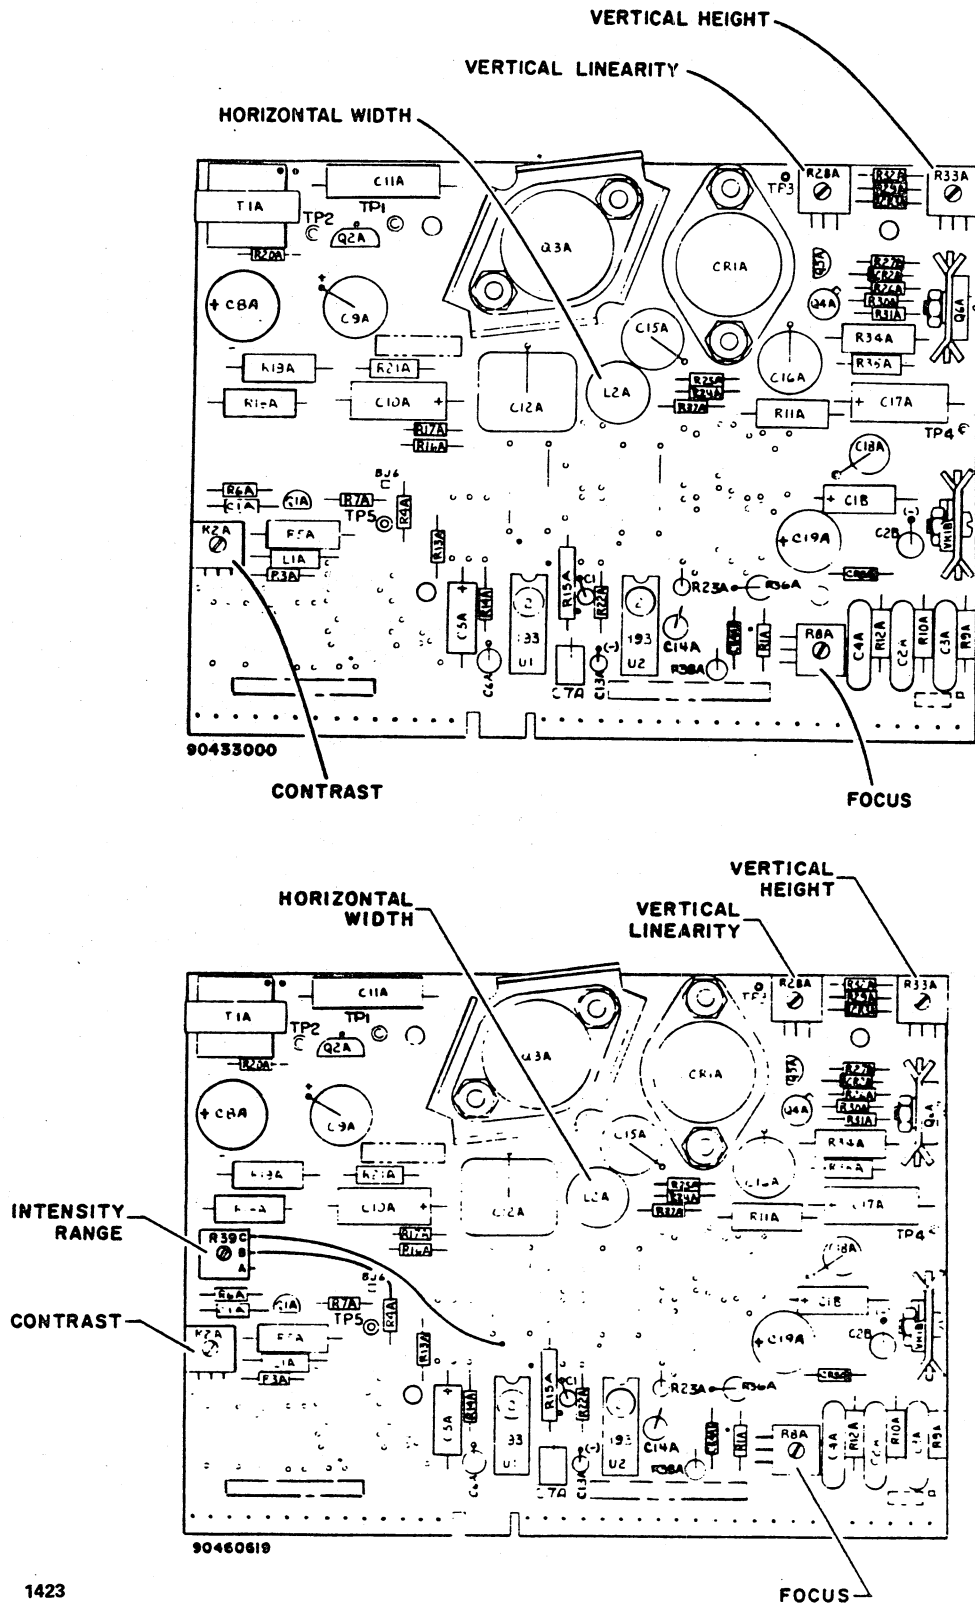

Figure 6-44. Monitor PWA Adjustments
If the raster is tilted, the left or right side of the screen is distorted, or the raster is not centered on the screen, perform horizontal and vertical alignment (procedure 14) before making further video adjustments (see figure 6-44).
- c. Increase the video gain by turning the contrast control (figure 6-44) clockwise until the checksum characters appear on the display.
8. Adjust the vertical height by turning the adjustment screw (figure 6-44) until the rectangle of display characters is 5.25 ± 0.1 in. (133 mm) in height.
10. Reduce the video gain to zero by turning the contrast adjustment screw (figure 6-44) fully counterclockwise.
12. Adjust the contrast control (figure 6-44) fully clockwise.
are compressed anywhere on the screen, turn the vertical linearity adjustment screw (figure 6-44) clockwise or counterclockwise until character distortion disappears and all lines are equal in vertical size.
15. Adjust the focus adjustment screw slot (figure 6-44) while observing the characters on the screen. Turn the focus adjustment screw clockwise until the dots (each character dot matrix) elongate toward the upper-right corner of the display screen. Then turn the focus control slowly counterclockwise until the elongated dots pull back to form round dots and the entire screen is without fuzziness.
7. Adjust the vertical height by turning the adjustment screw (figure 6-44) until the rectangle of display characters is 5.25 ± 0.1 in. (133 mm) in height.
8. Adjust the horizontal width to 8.0 ± 0.1 in. (203 mm) by turning the adjustment screw in the coil (figure 6-44) using a 3/32-inch nonmetallic hex driver.
12. Adjust the INTENSITY RANGE control (figure 6-44) so that the raster (background scan lines) just disappear and a normal viewing intensity is obtained.
13. Adjust the FOCUS control (figure 6-44) to obtain the best resolution of the m characters throughout the entire display.